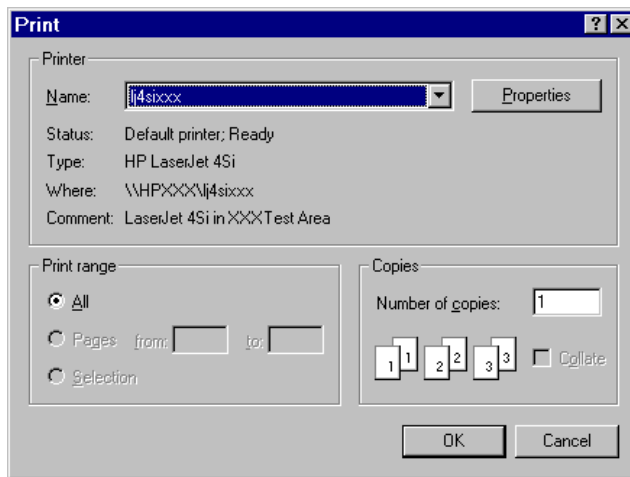

Figure 1-30. Printing the Screen
9. Continuing with the same example, to print the screen, select `File` ⇒ `Print Screen`. On Windows, the dialog box in Figure 1-30 appears.